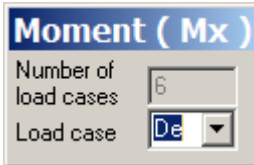

Figure 2.4.6 **Moment (Mx)** dialog box
- ⇒ In the **Moment (Mx)** dialog box (see Fig.2.4.6), do the following: